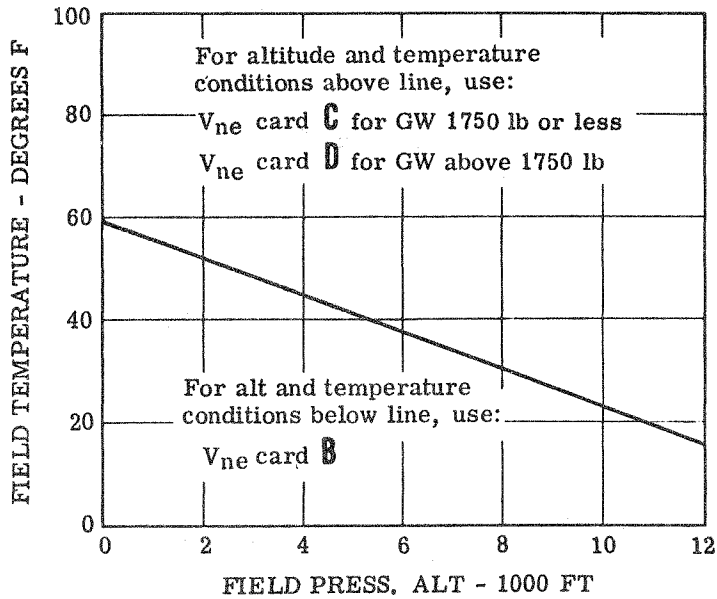

Figure 1. V_{NE} Card Selection For Dual RPM Operation
- a. Select and position proper Vne card for aircraft takeoff gross weight, altitude and temperature (refer to Section I, figure 1).